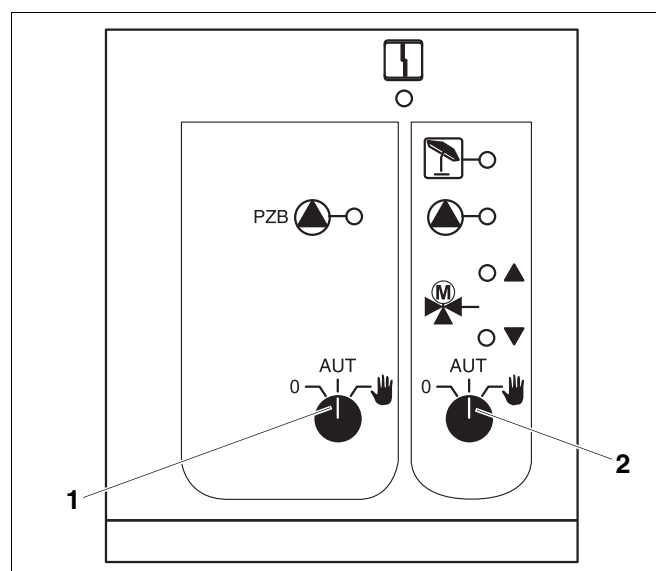

Fig. 26 ZM433 central module
- Set feed circuit (→ Fig. 26, [1]) via selector to manual .
- Set heating circuit (→ Fig. 26, [2]) at selector to manual .